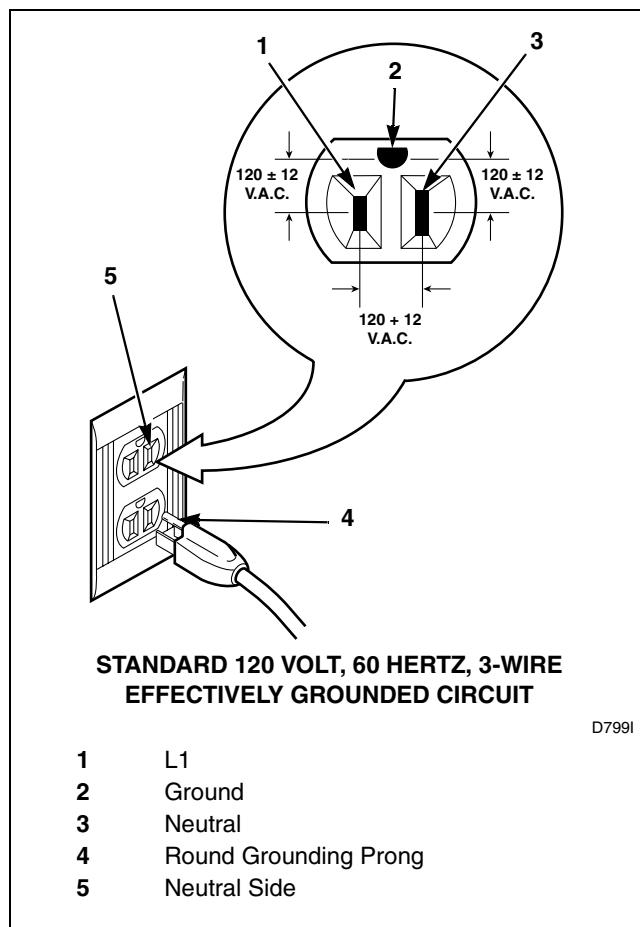

Figure 22
- The three-prong grounding plug on the power cord should be plugged directly into a polarized three-slot effectively grounded receptacle rated 120 Volts AC (alternating current) 15 Amps. Refer to *Figure 22* to determine correct polarity of the wall receptacle.